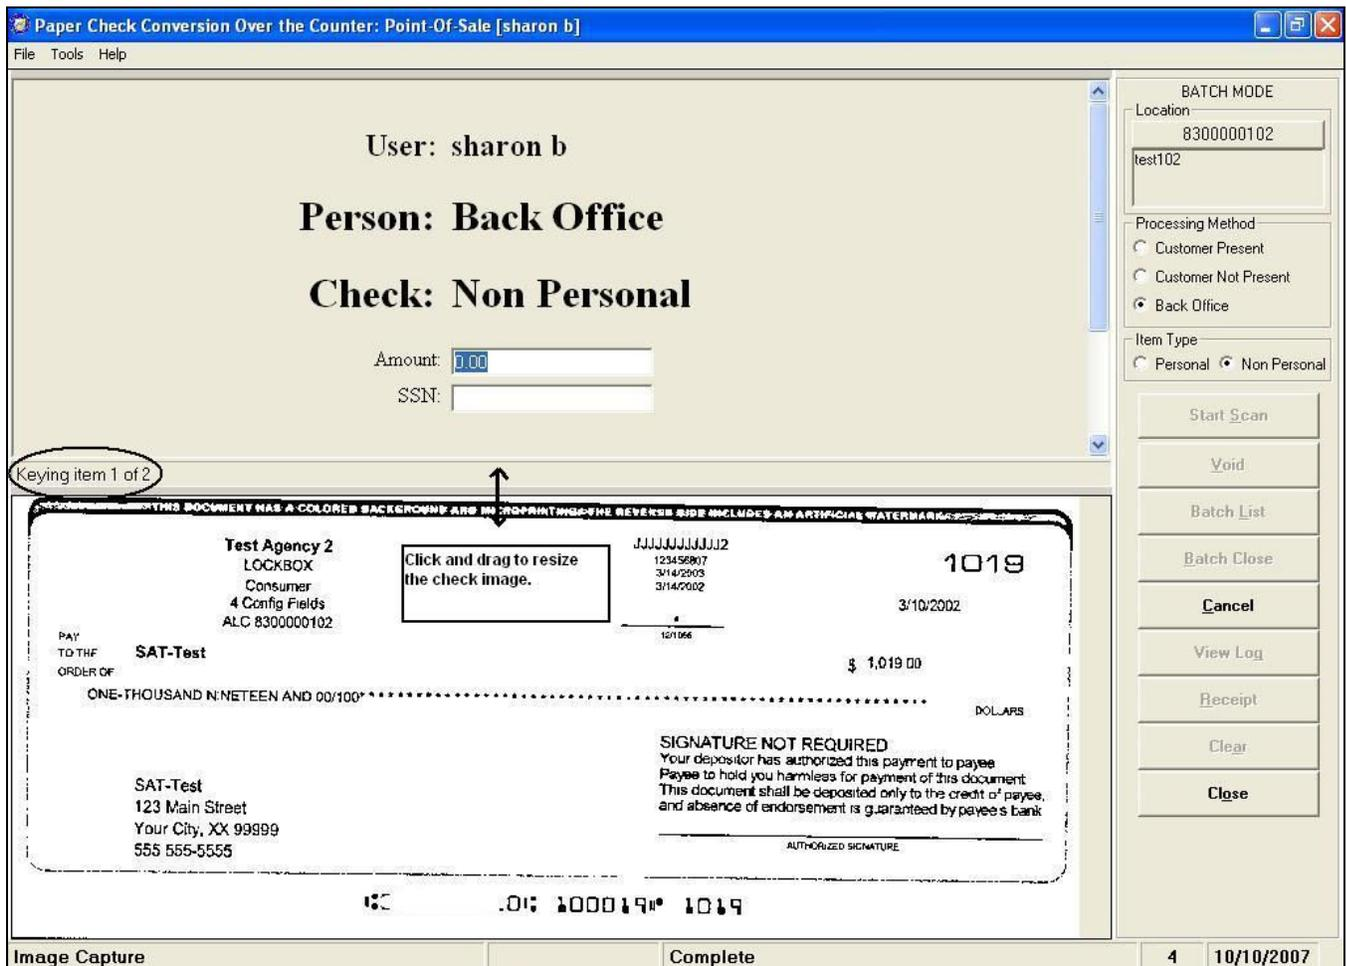

Figure 6.33.03
When the 'Hopper Empty' message appears, the user can add more checks to the hopper then click '**Yes**' to continue adding items to the batch. Or click '**No**' if there are no more checks to scan. When '**No**' is clicked, the system switches to the data entry phase and the first check that was scanned appears on the screen as displayed in Figure 6.33.03. The middle of the screen displays the words 'Keying item 1 of X' which tells the operator that data for first check that was scanned can now be keyed. The 'X' signifies the total number of checks that were placed in the hopper. For example, if 8 checks were placed in the hopper, the message would state 'Keying 1 of 8'.
Note: the image of the check can be resized by hovering the cursor near the top line of the check (as displayed in Figure 6.33.03) until the double arrow cursor \updownarrow appears. Click and drag up or down to resize the image.